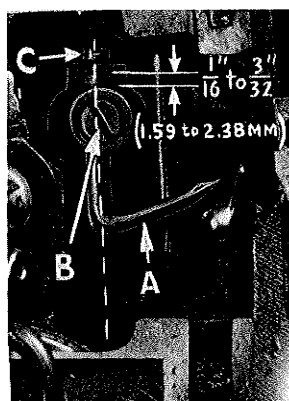

Fig. 8
Insert upper looper (A, Fig. 8) in its holder. Screw (B) holds upper looper in its holder and permits it to be pushed in or out or turned around its shank. Insert upper looper holder into upper looper shaft, if it is not already in place. Screw (C, Fig. 8) on clamp holds the upper looper holder in the shaft. Locate upper looper in its holder so that the shank extends  $\frac{1}{16}$  to  $\frac{3}{32}$  inch (1.59 to 2.38 mm) beyond holder (Fig. 8), for Styles 39500 QL, QN, QV, QX, RU, SR, SX and TY;  $\frac{1}{32}$  to  $\frac{1}{16}$  inch (.79 to 1.59 mm) for Styles 39500 RP and TG.
When the upper looper is at the right end of its stroke, upper looper holder should be set to position upper looper shank about vertical on Styles 39500 QN, QV, QX, SX and TY (Fig. 8). On Styles 39500 QL, RP, RU, SR and TG the upper looper holder should be set to position the upper looper shank slightly back of vertical. Be sure, on all Styles, there is a clearance between heel of looper and the casting. By adjusting looper holder in or out of upper looper shaft and by turning the looper around its shank, set upper looper point to cross lower looper to the left of the lower looper eye with .002 to .004 inch (.051 to .102 mm) clearance (Fig. 9).